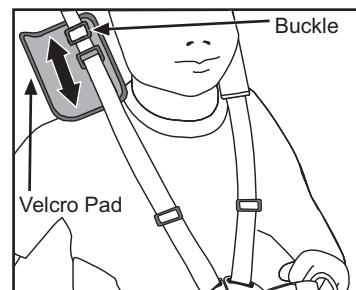

Fig. 20 Adjust Shoulder Straps.
- Adjust shoulder strap height. Adjust height of shoulder strap to fit just above child shoulder height (Fig. 20).
- Adjust shoulder strap. Open Velcro pads. Slide buckle up or down to adjust straps. Seat harness should fit snug and be comfortable (Fig. 20).